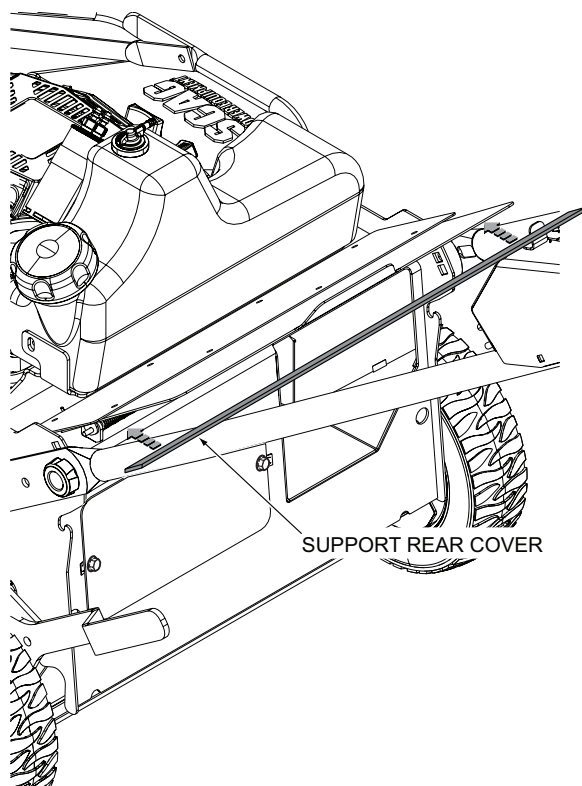

Figure 6-4. Lift and Support Rear Cover
4. Using a piece of scrap material, broom handle or other object wider than the handle bars, lift and support the rear cover to gain access to the rear of the mower. See Figure 6-4.